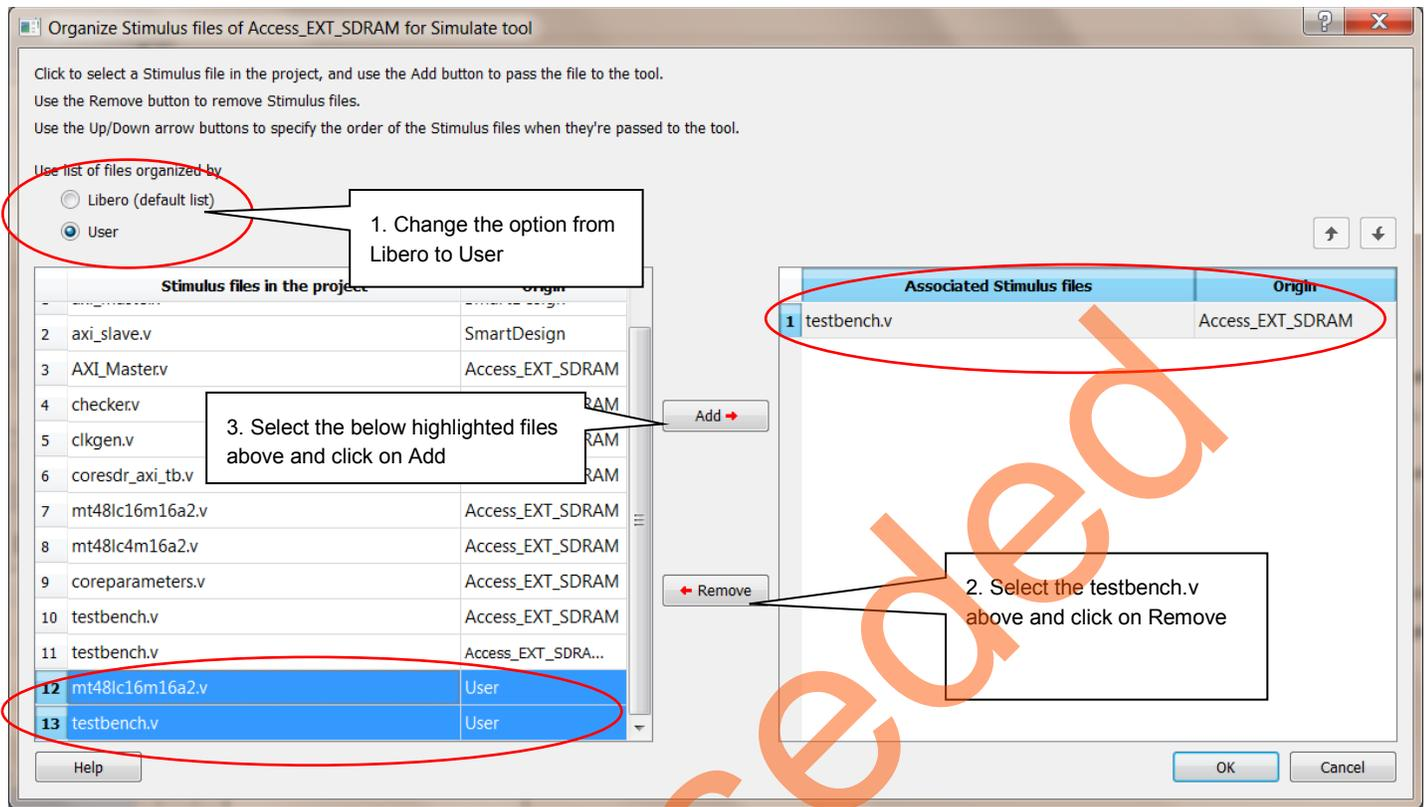

Figure 34. Organizing Stimulus Files
- Select the **testbench.v** and **mt48lc16m16a2.v** files under **Stimulus files in the project** and click **Add** to add them to the Associated Stimulus files as shown in Figure 34.